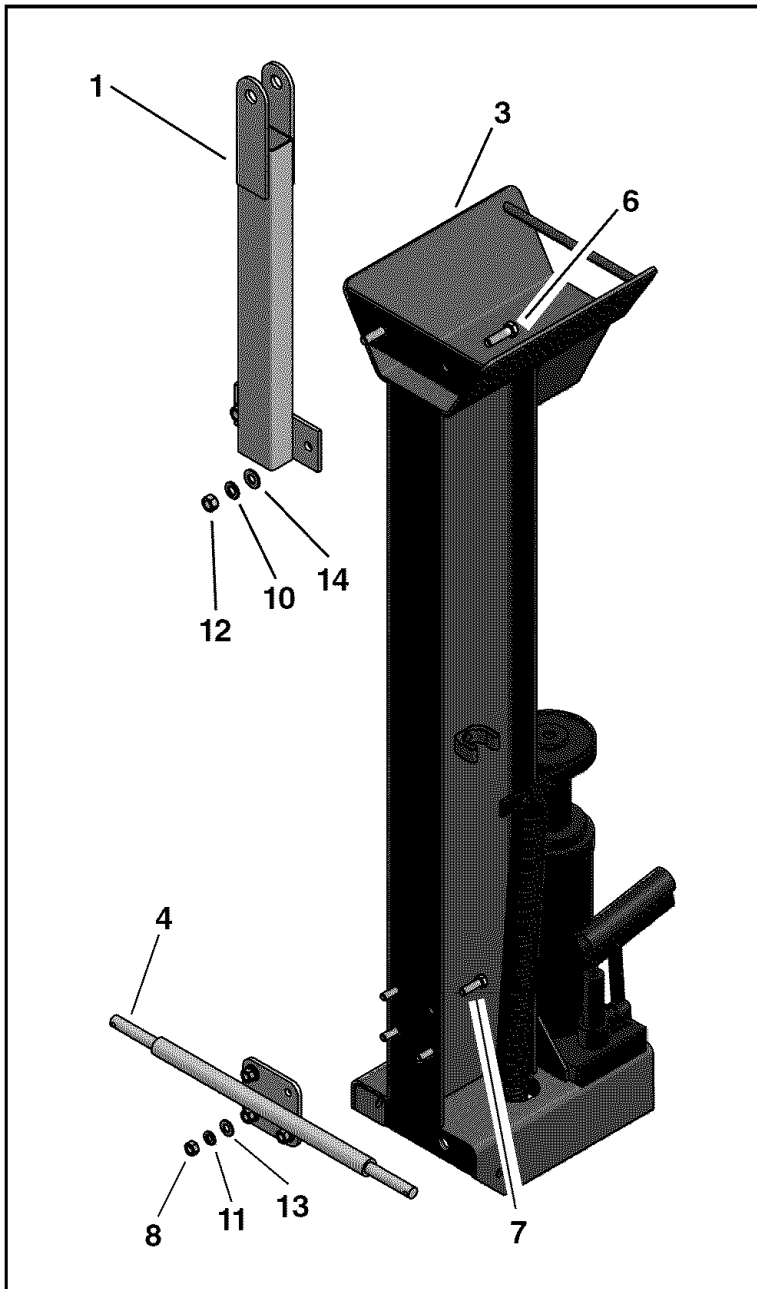

Figure 1
2. With the Log Splitter(3) standing on end, attach the Hitch Assy(1) using two M10 x 25 Hex Bolts(6), and secure with two 3/8 Washers(14), two 3/8 Lock Washers(10), and two M10 Hex Nuts(12). Be sure that all bolts are tight. (Figure 1)
3. Attach Axle Assy(4) to the Log Splitter(3) using four M8 x 25 Hex Bolts(7), and secure with four 5/16 Washers(13), four 5/16 Lock Washers(11), and four M8 Hex Nuts(8). Be sure that all bolts are tight. (Figure 1)